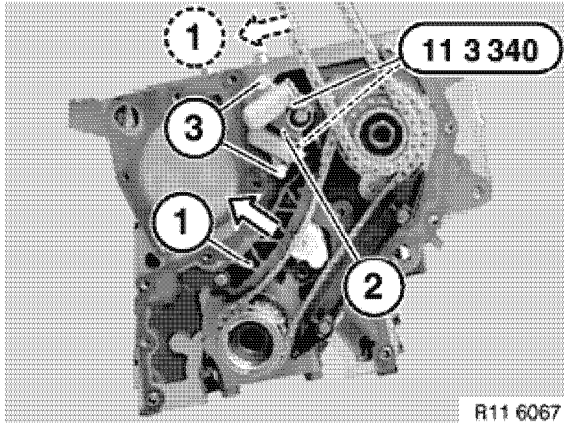

Figure 5-89
2. Press both tensioner rails (1, **Figure 5-89**) in direction of arrow. Insert special tool OEM No. 11 3 340 in designated openings in chain tensioner (2, **Figure 5-89**).
3. Remove bolts (3, **Figure 5-89**).
4. Remove chain tensioner (2, **Figure 5-89**).